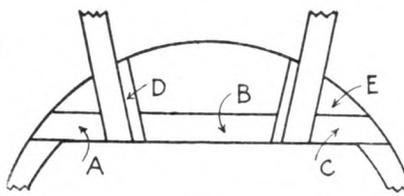

Fig. 2
A further line, $\frac{1}{2}$ in. to the inside of those already drawn, should be put in parallel to these, to indicate the position of the cross-board D (Fig. 2).
When the positions of all the legs and boards have been drawn in, then the battens (A), (B) and (C) (seen in Fig. 2) can be dealt with. These are cut from 1 in. by 2 ins. stuff, and should be sawn to fit the spaces shown by the drawings